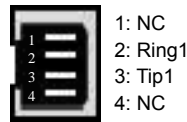

Figure 2-4 Analog Station Interface
- ① Regarding the construction of analog phone lines, please refer to Figure 2-4 Analog Station Interface.